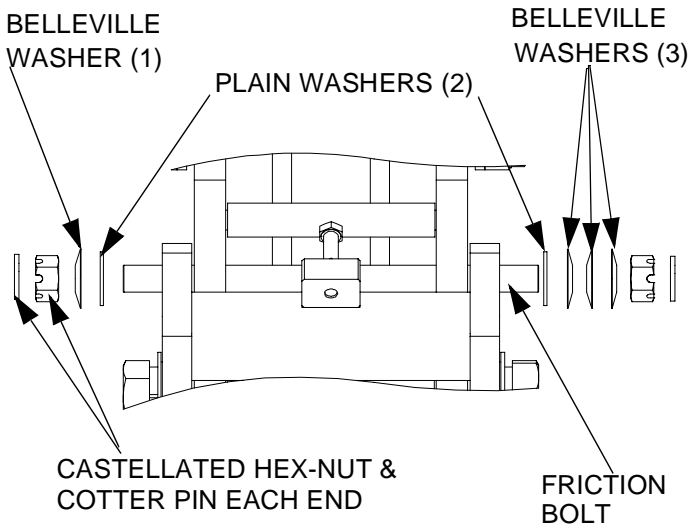

Figure 3A: Assembly, (AE) Automatic Equalization Mechanism
6.7.(a) : Refer to Figure 3A: Install a castellated hex-nut, secured by a cotter pin, on one end of the friction bolt. Add a stack of three belleville washers in series, (inner rim of stack against the nut), followed by a plain washer.